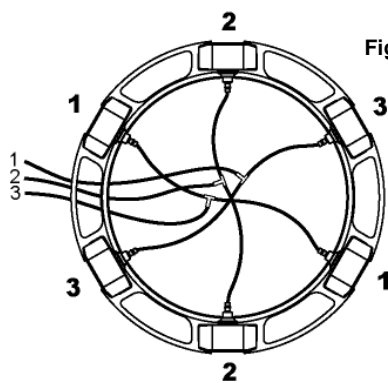

Fig. 7a
**Fig . 7 –** "T-barb" hose connections are made inside the shaft. The number of connections depends upon how many external elements the shaft has. All connections should be made from opposing pairs of hoses and reduced to the minimum number of pairs needed for the 3-way or 4-way valve used, as shown in Fig. 7a and 7b.